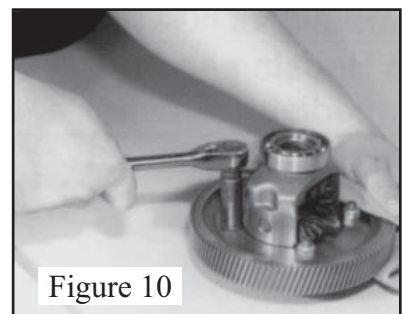

Figure 10
11. Remove the four nuts and bolts holding the ring gear to the differential and remove the ring gear. See figure 10.